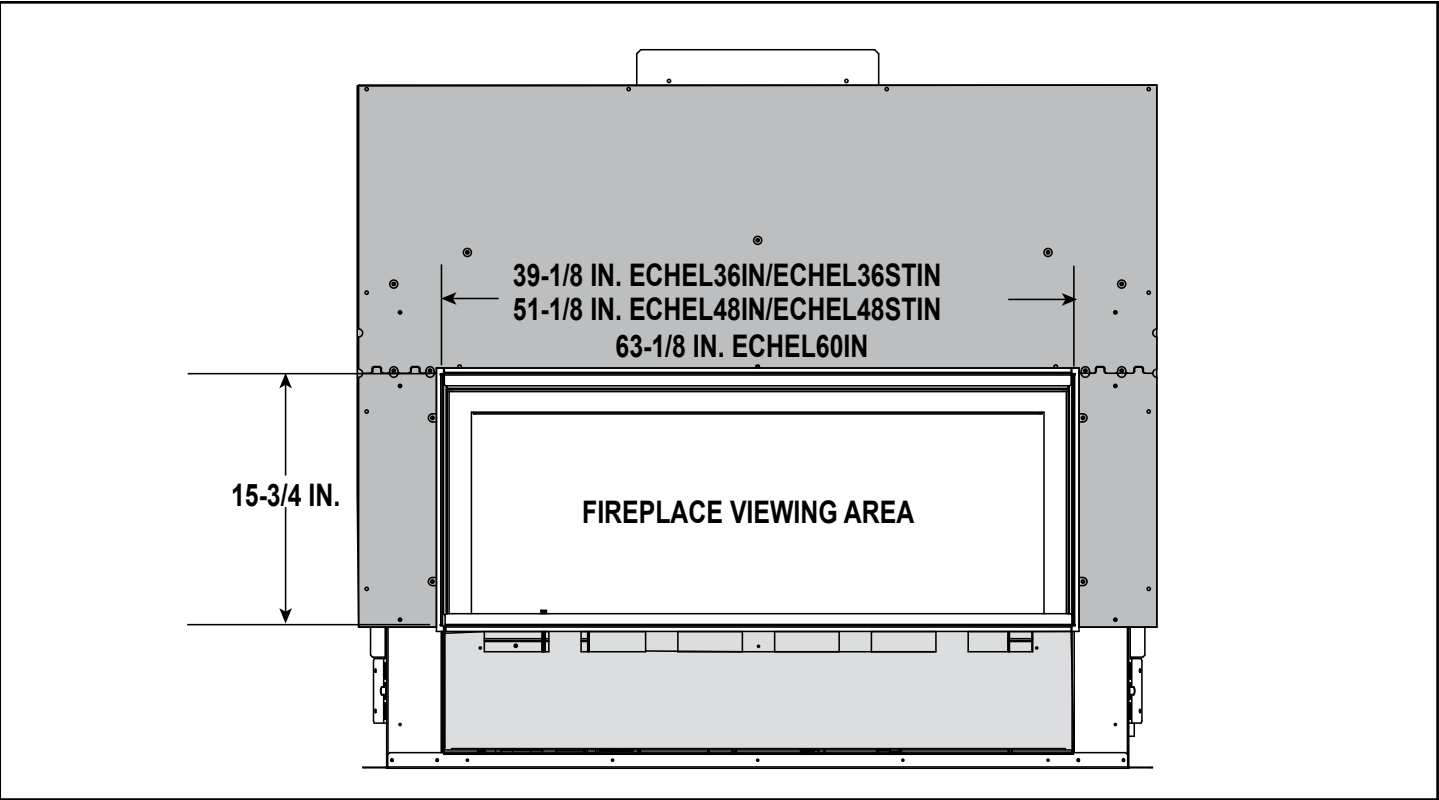

Figure 10.4 Minimum Finished Opening Dimensions - Clean Face Trim Front Method
- 2. The non-combustible finish material, 0-1 inch thick, should be installed up to the fireplace opening on all four sides, including the bottom access panel, covering the rectangular holes. Refer to Figure 10.4 for minimum finished opening dimensions.
2. The non-combustible finish material, 1-4 inches thick, should be installed up to the fireplace opening on all four sides, including the bottom access panel, covering the rectangular holes. Refer to Figure 10.4.